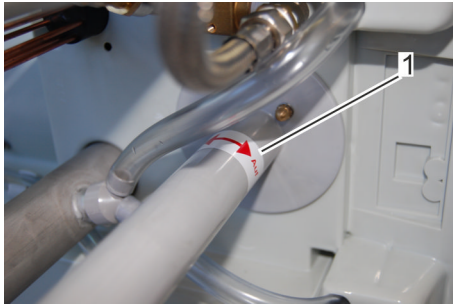

Fig. 47: Releasing the water pump
6. ➔ Release the water pump to the right and pull out it carefully (Fig. 47/1).